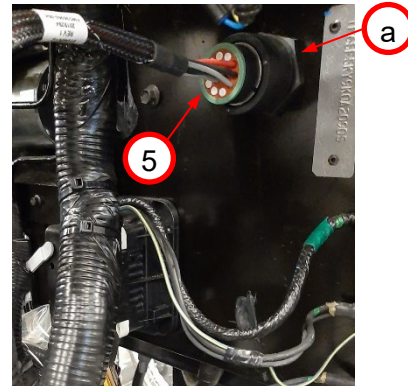

Figure 2:
5. Disconnect chassis harness bulkhead connector (5) from driver side engine compartment firewall by loosening the connector nut (a). *Figure 2*
4. Connect cabin harness bulkhead connector (*not visible*) to chassis harness bulkhead connector (5) at driver side engine compartment firewall by plugging it in the chassis harness bulkhead connector (5) and tightening the connector nut (a). *Figure 2*